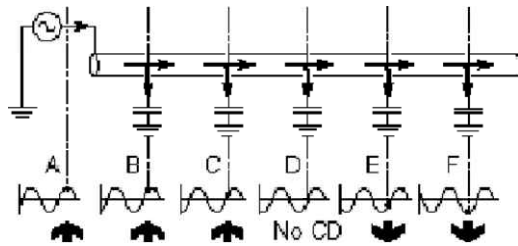

Figure 9.2: CD reset
Figure 9.2 illustrates a buried line with significant capacitance to ground. It illustrates the gradual phase-shift that occurs along the line. The diagram shows a reference point on each waveform. At first, the reference point occurs right on the Peak of a positive half cycle (A). It gradually moves towards the zero crossing point (D) and ends up on the Peak of a negative half cycle (F). The direction has shifted from forwards to backwards. At the intermediate point (D) the current flow cannot be determined. At this point the CD arrows on the RD8100 locator will flash on and off. In the example shown in the illustration, by returning to (C) which is the last point at which a CD reading was achieved, and performing a CD reset, the response at (C) will be equivalent to that of (A).